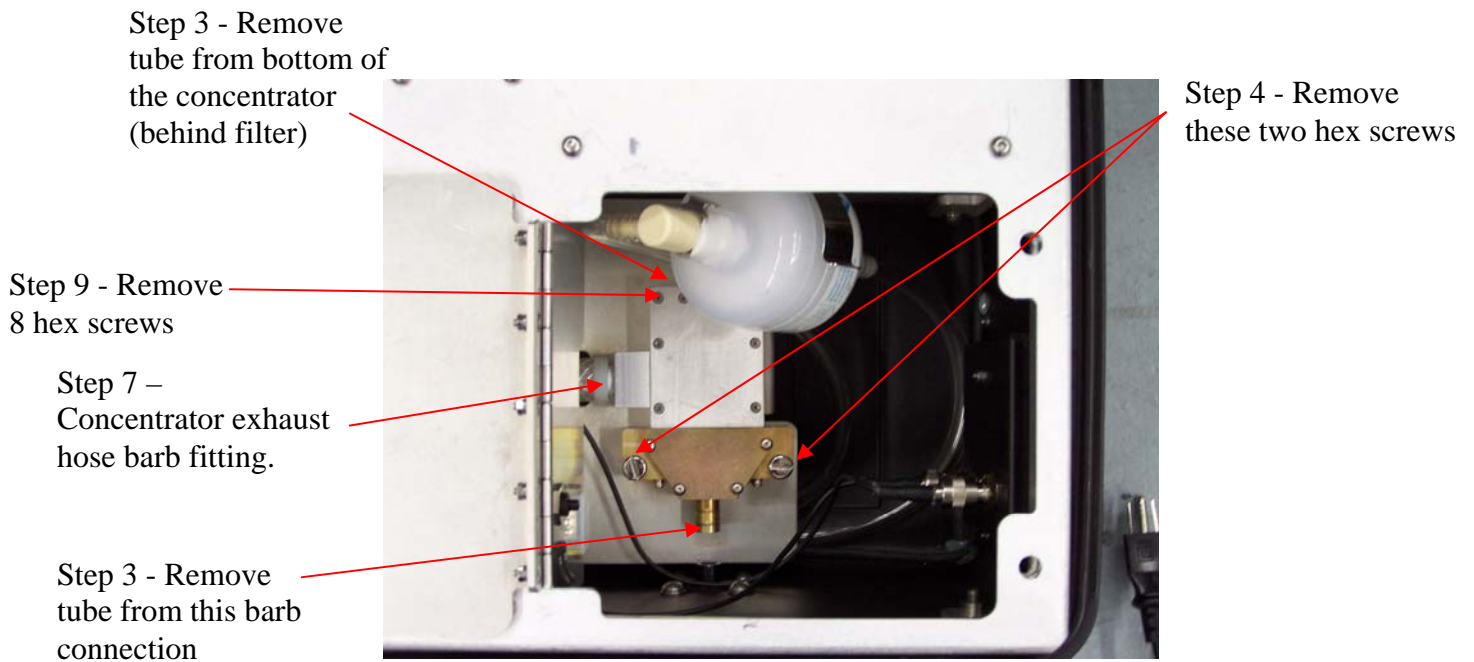

FIGURE 27. Concentrator Cleaning
3. Remove the short flexible tubes between concentrator output and the sensor input and the concentrator input and air intake output by carefully pulling the tubing off the hose barbs (Figure 27).
4. Remove the two (2) hex cap screws located at the top corners of the concentrator intake adapter that secure the concentrator and adapter to the mounting plate (Figure 27).
7. Pull the concentrator as far forward as possible, grasp the concentrator exhaust hose barb with a wrench and unscrew the concentrator from the exhaust hose barb (Figure 27).
9. Remove the eight hex screws that secure the two halves of the concentrator together and carefully separate the halves of the concentrator (Figure 27). Take care not to damage or misplace the O-ring.